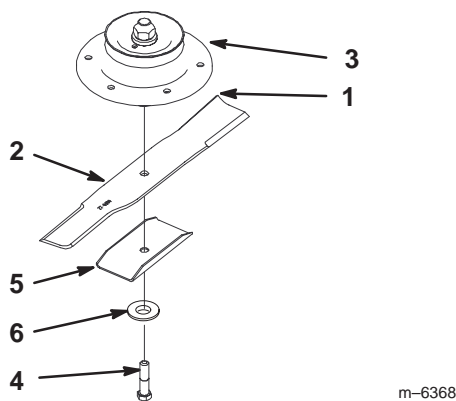
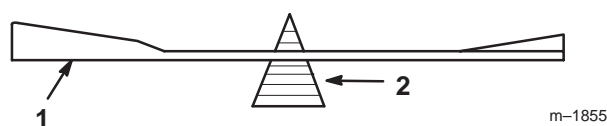

Figure 47
Figure 49
1. Hold the blade end using a rag or thickly-padded glove. Remove the blade bolt, blade stiffener, washer, and blade from the spindle shaft (Fig. 47).
2. Check the balance of the blade by putting it on a blade balancer (Fig. 49). If the blade stays in a horizontal position, the blade is balanced and can be used. If the blade is not balanced, file some metal off the end of the sail area only (Fig. 47). Repeat this procedure until the blade is balanced.
1. Install the blade onto the spindle shaft (Fig. 47).
Important The sail part of the blade must be pointing upward, toward the inside of the mower to ensure proper cutting (Fig. 47).
2. Install the lock washer and blade bolt (Fig. 47). Torque the blade bolt to 85–110 ft-lb (115–140 N•m).